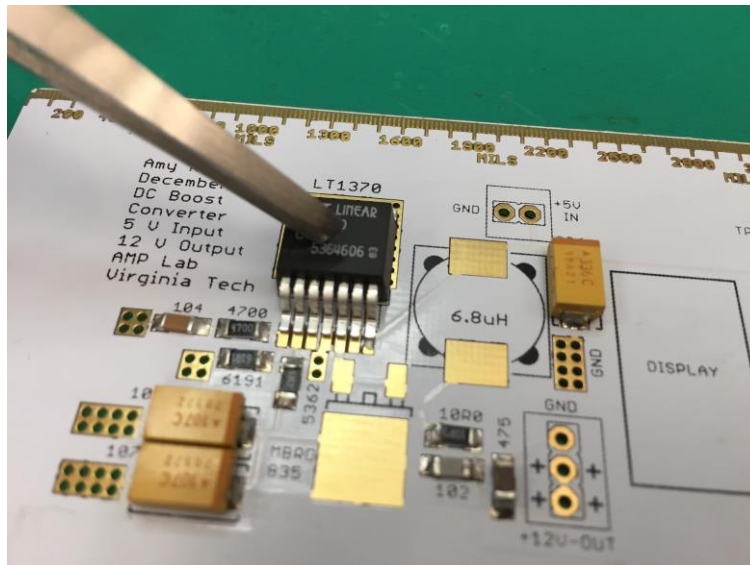

Figure 4.
- c. Put the component (in the correct orientation!) on the pad, hold it down, and reflow the solder. The component should become flush with the pad and solder should stick to it. (Figure 4)